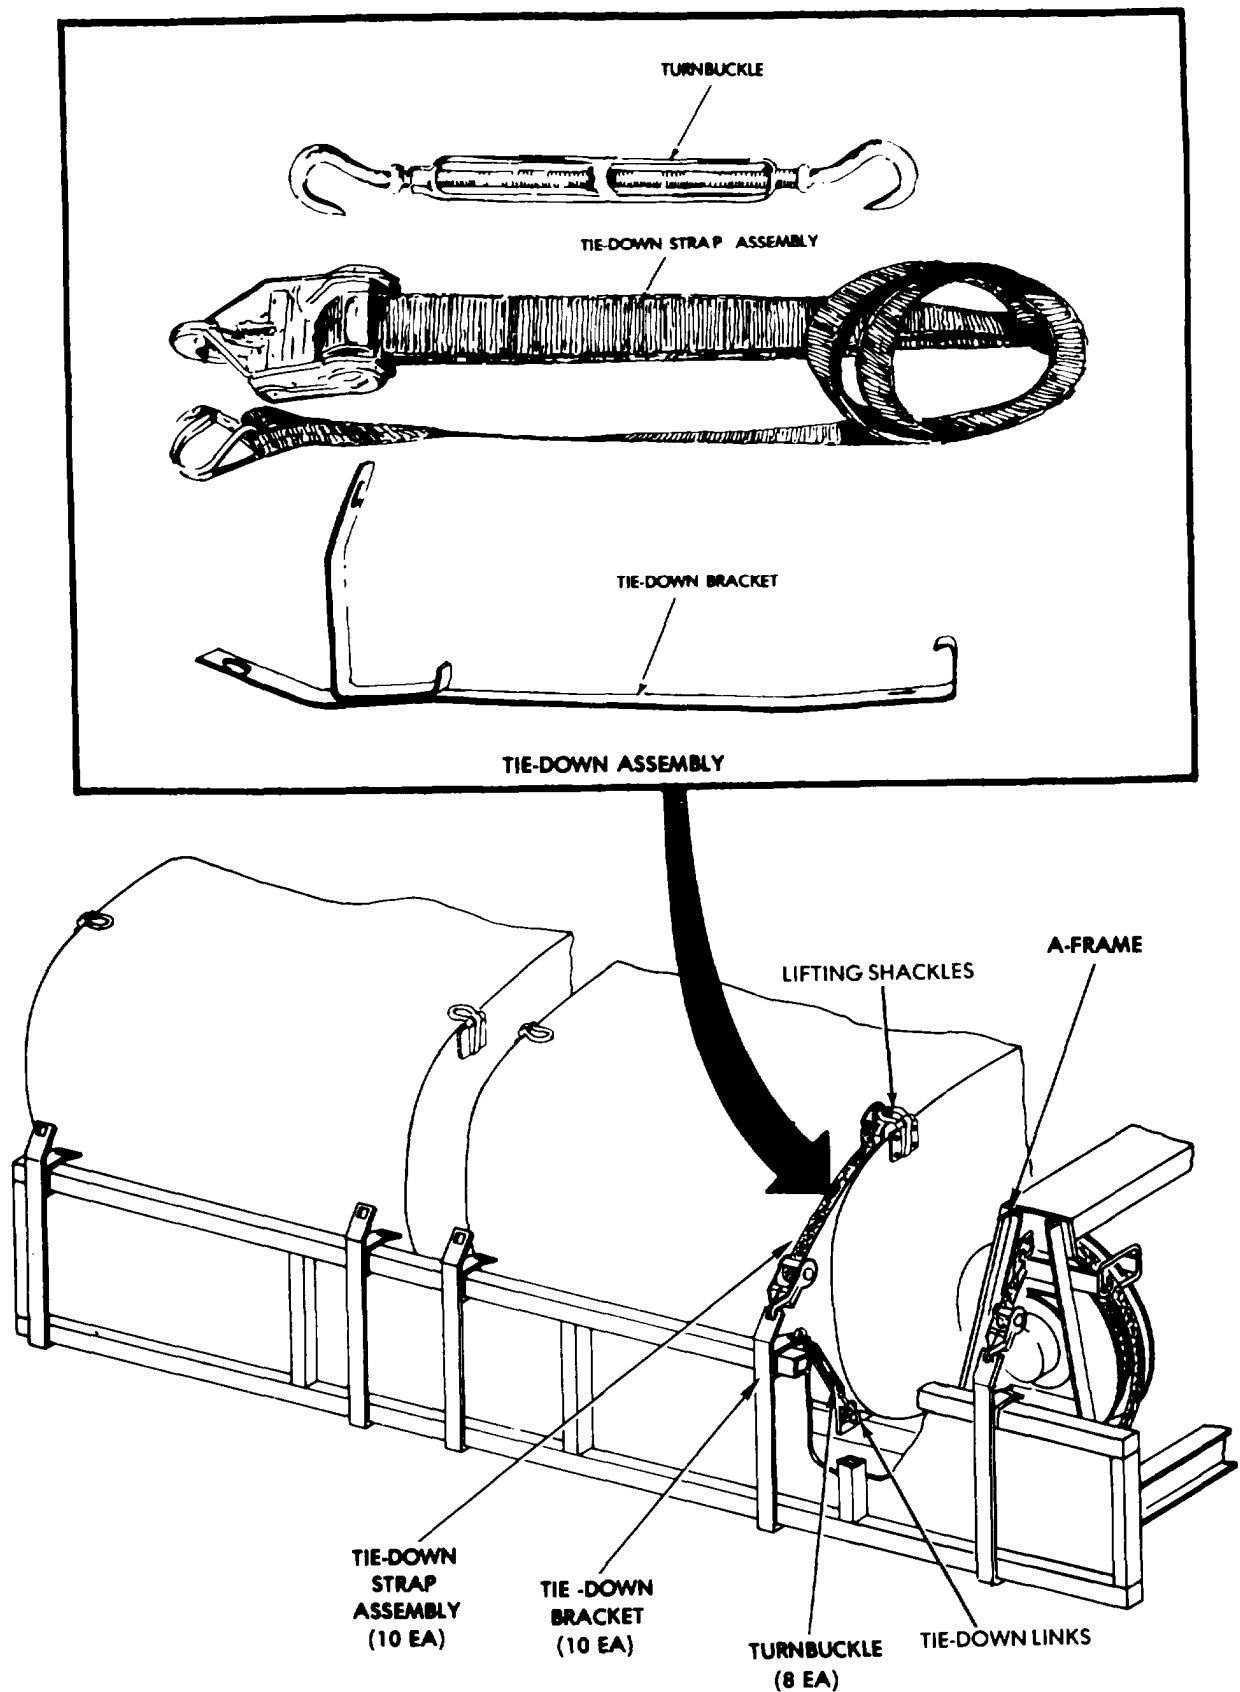

Figure 4-15. Tank and Pump Unit Tiedown Installation.
- a. Remove cotter pins, nuts, flat washers, and screws, and remove lifting shackles (figure 4-15).
- a. Remove screws, lockwashers, and retainer, and remove tiedown links (figure 4-15).
- b. Replace damaged or defective tiedown straps, tiedown brackets or turnbuckles (figure 4-15).